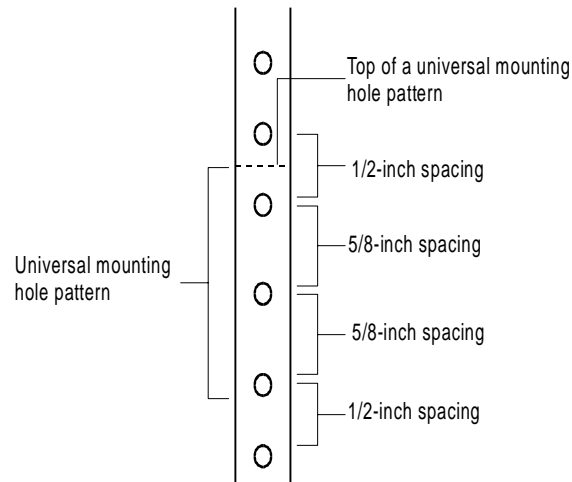

Figure 2 Universal Mounting Hole Pattern
- 3 If the holes are not threaded, you must insert “G” clips. To determine where to insert “G” clips, locate the top of a universal mounting hole pattern on the left mounting rail. In the universal rail pattern, the spacing between holes is 1/2 inch, 5/8 inch, 5/8 inch, and 1/2 inch. To find the top of the pattern, locate the midpoint between any two holes that are spaced half an inch apart. Figure 2 shows the universal mounting hole pattern.